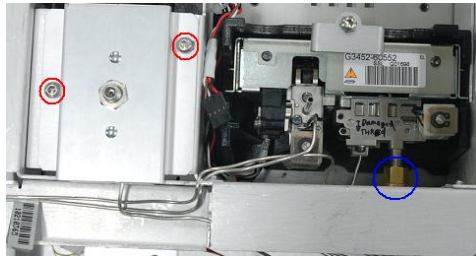

Figure 7 Removing the Bulkhead assembly
8. Remove the Bulkhead Assembly (See Figure 7)